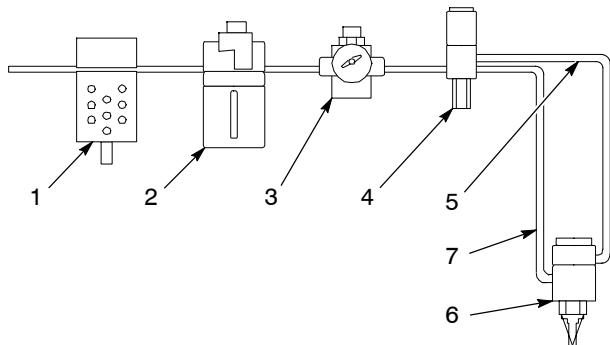

Figure 7 Air Line Connection Schematic for Air-Assisted Valve Closure
5. See Figure 7. If you are using air-assisted closure, attach an air line (5) to the B port of the solenoid valve. Attach the air supply line to the valve-close air inlet.